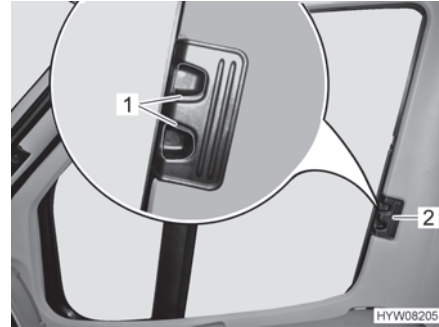

Fig. 24 Roman shade for driver's and passenger's window
- Use handle (Fig. 24,2) to push in the Roman shades for the driver's and passenger's window as far as possible.
- Allow the release handles (Fig. 24,1) to engage.